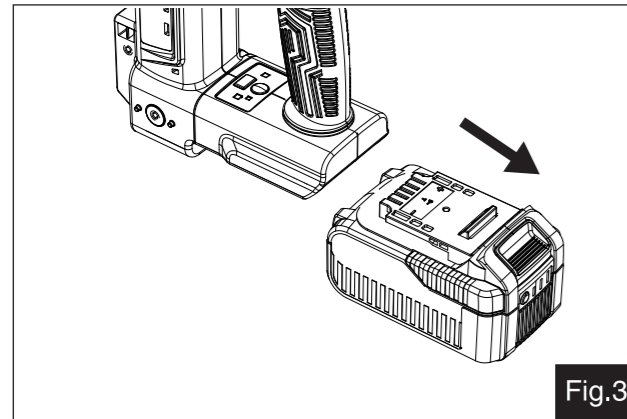

Fig.3
1. Remove the battery to avoid incidental injury (Fig.3).